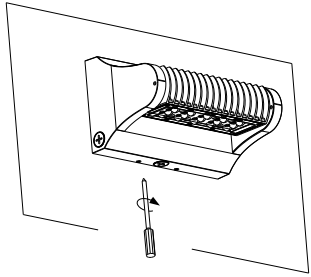

Figure 5
5. Fix the luminaire on the bracket and tighten screws on the bottom. (Figure 5)